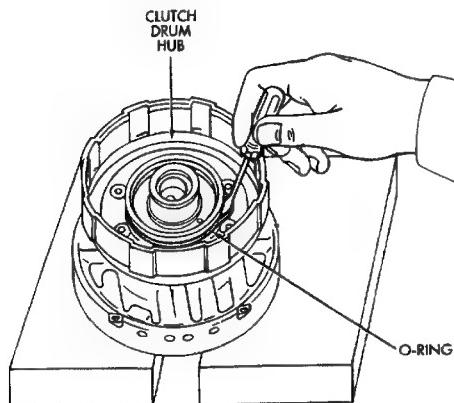
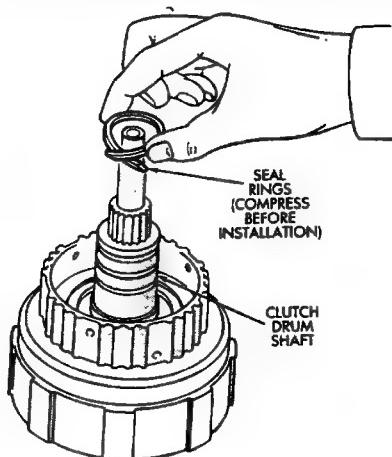

Fig. 7 Removing/Installing Clutch Drum O-Ring
Fig. 14 Installing Clutch Drum Shaft Seal Rings
(2) Coat new clutch drum shaft seal rings with petroleum jelly. Before installing drum shaft seal rings, squeeze (contract) each ring so ring ends overlap (Fig. 14). This tightens ring making clutch installation easier.
(3) Install seal rings on shaft. Keep rings closed as tightly as possible during installation. Avoid over-spreading them.
(4) Mount clutch drum on overdrive support.
(5) Lubricate and install new O-ring on clutch drum hub (Fig. 7).